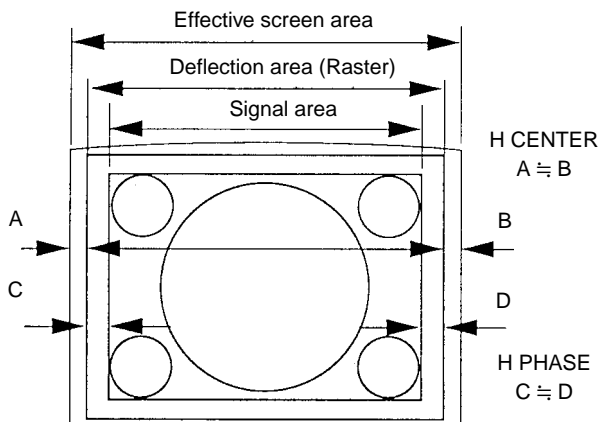

Fig. 1-6
3. Adjust the H. BLK. LEFT data to the minimum (0). Adjust the H. BLK. RIGHT data to the maximum (255).
6. Adjust the H. CENTER data so that the raster comes to the center of the effective screen ( $A \approx B$  is obtained.) (Fig. 1-6)